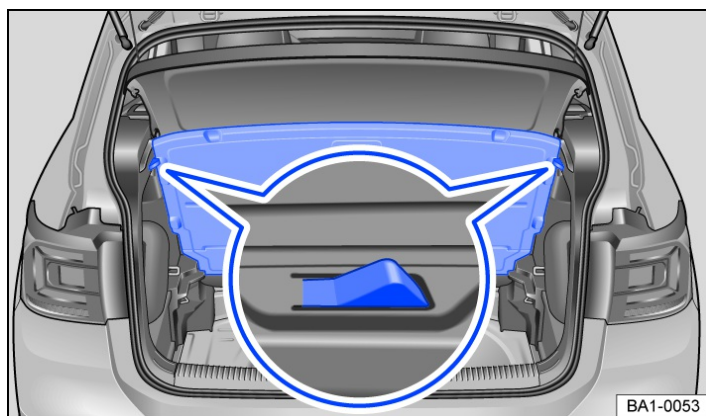

Fig. 2 In the luggage compartment: locking the variable luggage compartment floor in position.
- To lock in position, lift up the variable luggage compartment floor until it is held in position by the side restraints → Fig. 2 (close-up).